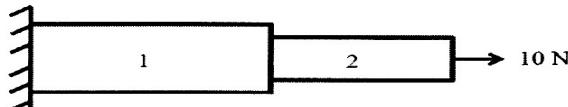

Figure 1
b) Determine the nodal displacement strain and stresses in each element as shown in figure 1. Consider the $E = 200 \text{ GPa}$, force $P = 10 \text{ N}$. [8]